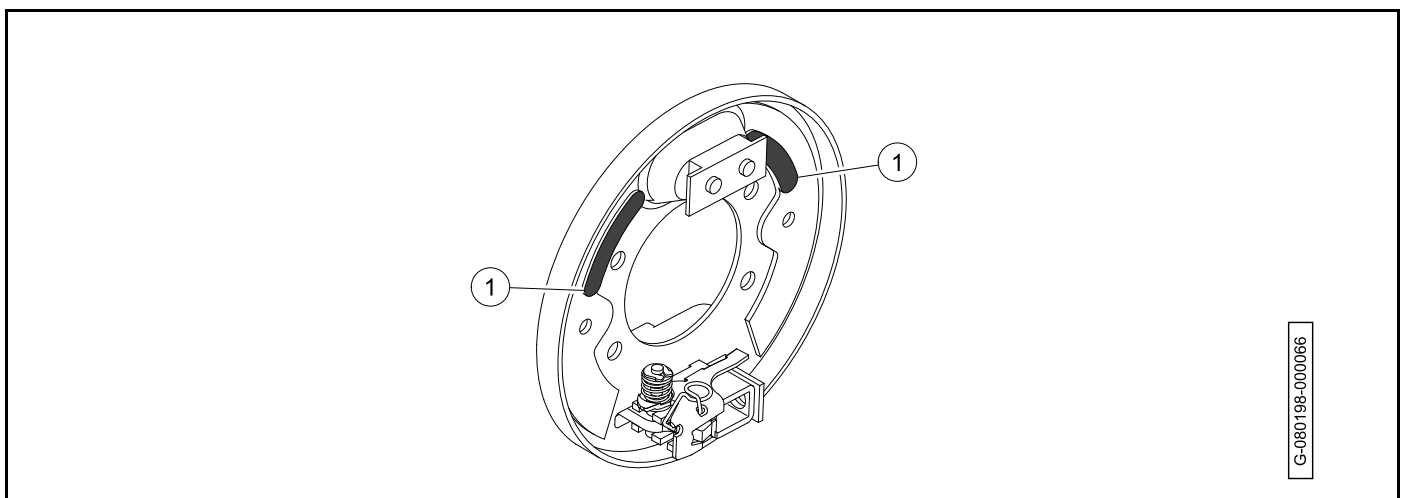

Figure 6-8
- Use a small brush to carefully apply a light coat of white lithium NLGI #2 grease (Dow Corning® BR2-Plus or equivalent) on the raised bosses (1) on the brake backing plate (**Figure 6-8**).